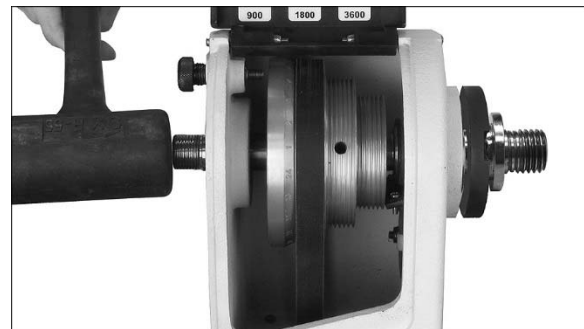

Figure 31
9. Use a rubber mallet, or hammer against a block of wood, to tap spindle toward tailstock (Figure 31). Note: The right side bearing will slide out with the spindle.